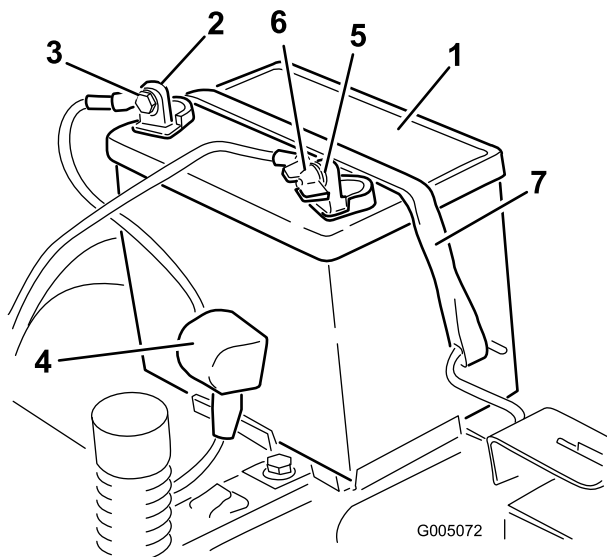

Figure 38
4. Disconnect the negative (black) ground cable from the battery post (Figure 38). Retain all fasteners.
5. Slide the rubber cover up the positive (red) cable. Disconnect the positive (red) cable from the battery post (Figure 38). Retain all fasteners.
6. Remove the battery hold-down (Figure 38) and lift the battery from the battery tray.
1. Position the battery in the tray with the terminal posts toward the operating position (Figure 38).
5. Secure the battery with the hold-down (Figure 38).